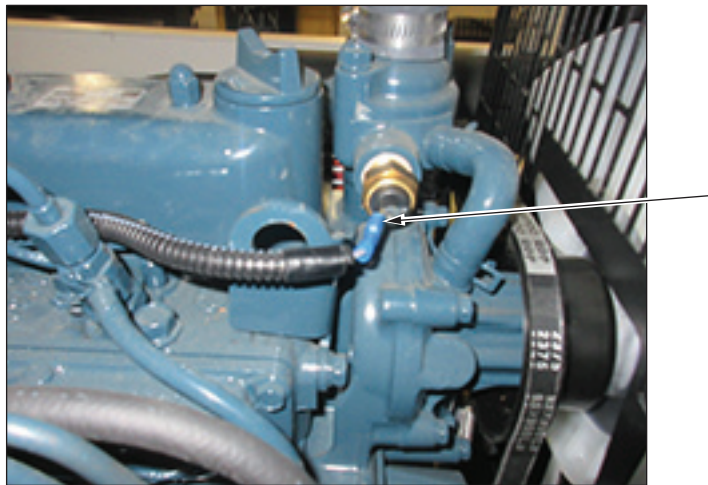

Figure 4 - Coolant Temperature Sensor Wire (Top of Engine)
b. See Figure 4. Disconnect coolant temperature switch wire.